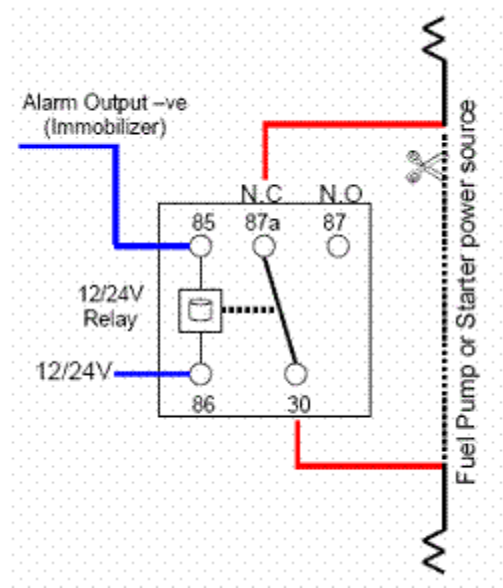

Fig.1
- Out 01 port of MTD1000 to pin 85 of BOSCH A relay device in fig.1
- IN-1 port of MTD1000 to pin 86 of BOSCH A relay device in fig.1